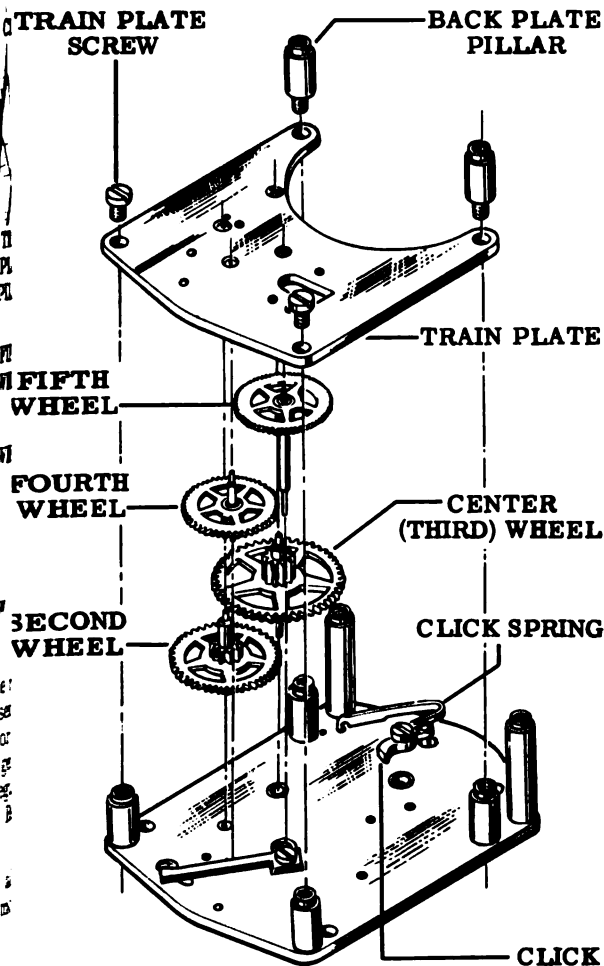

Figure 60—5160 Mechanical Clock Movement
14. Lift out the fifth, the fourth, the second and the third wheels. See Figs. 60 and 61.